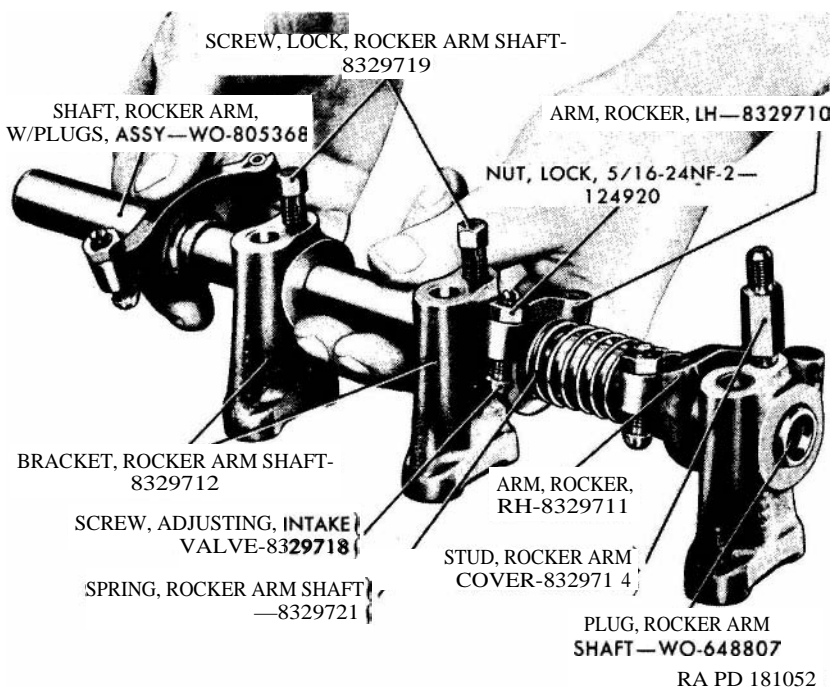

Figure 41. Disassembling rocker arm assembly.
b. Slide the rocker armshaft brackets, the four rocker arm assemblies, and the two rocker arm shaft springs off the rocker arm shaft (fig. 41). Remove the two rocker arm shaft lock screws from the two remaining rocker arm shaft brackets and slide the brackets off the shaft.
c. Insert a screwdriver under the edge of the rocker arm shaft plugs (fig. 41) at each end of the rocker arm shaft, and pry the plugs out of the shaft.
a. Install the two rocker arm shaft plugs (L), one in each end of the rocker arm shaft (M). Slide two rocker arm shaft brackets (F) onto the rocker arm shaft. Aline the tapped holes in the brackets with the drilled holes in the top of the rocker arm shaft and install the rocker arm shaft lock screws (N), making sure the points of the screws enter the drilled holes in the shaft.
b. Screw the intake valve adjusting screws (fig. 41) into the rocker arm and install the $\frac{3}{16}$ -24NF-2 locknuts (Q).
c. Install a rocker arm shaft spring (X) on the shaft against the rocker arm. Install the second rocker arm on the shaft in the same manner as in *c* above, except that the adjusting screw end of the arm is to be angled toward the center rocker arm bracket (**fig. 41**).